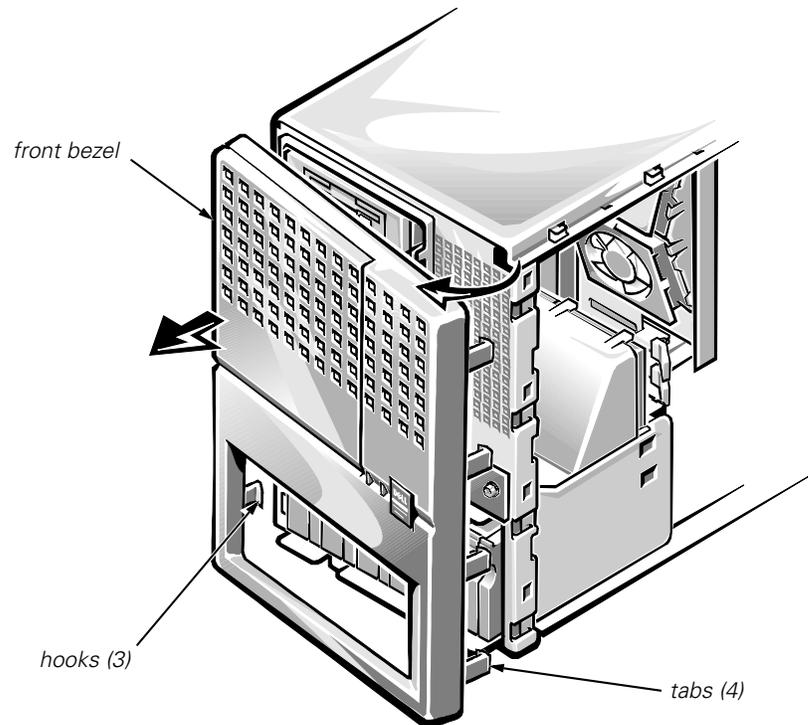

Figure 4-2. Front Bezel Removal
- 2. Gently pry the four tabs along the right edge of the bezel loose, and then disengage the three hooks on the opposite edge from the chassis (see Figure 4-2).**